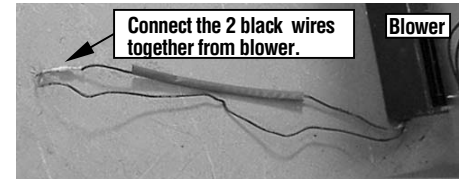

Figure 11
- Connect the 2 black wires together from the blower assembly. See Figure 11 and 14.